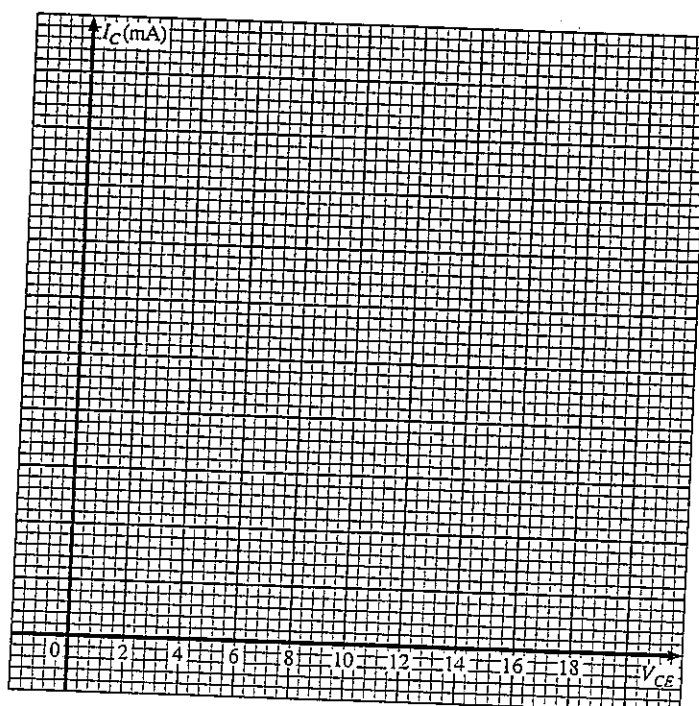

Figure 8-4 Characteristic curves obtained from a commercial curve tracer.
- b. Reproduce the characteristics obtained on the graph of Fig. 8.4. Be sure to label each I_B curve and include the scale for each axis.